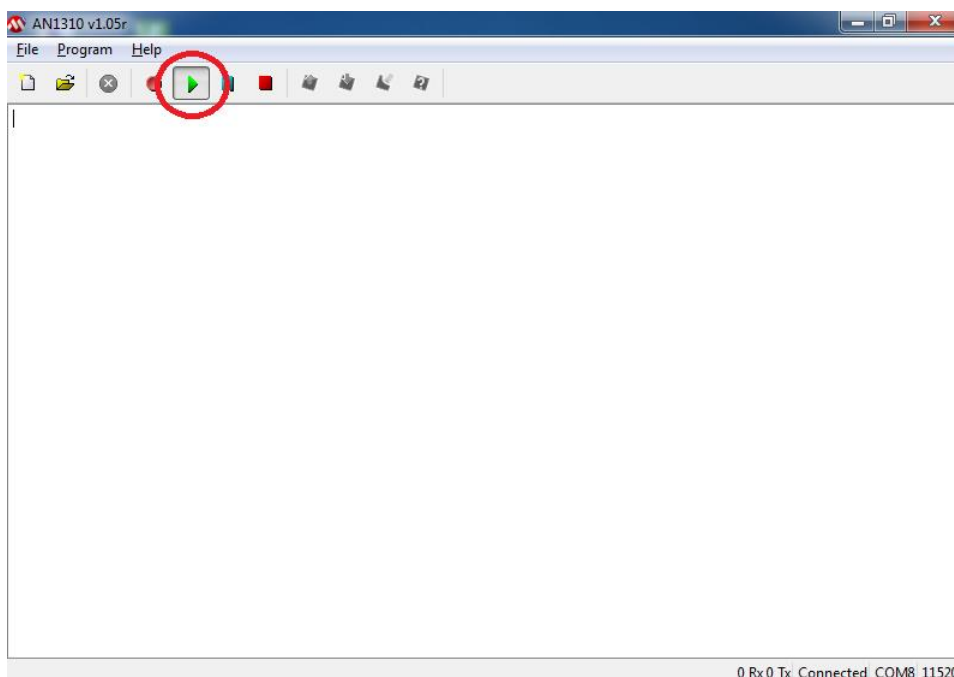

Figure 3.13
3. Press the green **Run Mode** button on the bootloader screen (Figure 3.13). At the bottom right hand side of the screen the **“Connected”** status will appear as well as the **COM** Port number.